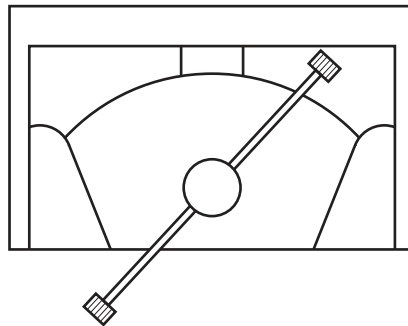

Fig. 11.3
- (iii) Fig. 11.3 shows a woodworker's vice. After the waste has been removed at **B** the sawn edge will be made flat and smooth by using a bench plane.
Add a sketch to Fig. 11.3 to show how the MDF arrow could be held in the vice so that the sawn edges could be planed flat and smooth. [1]